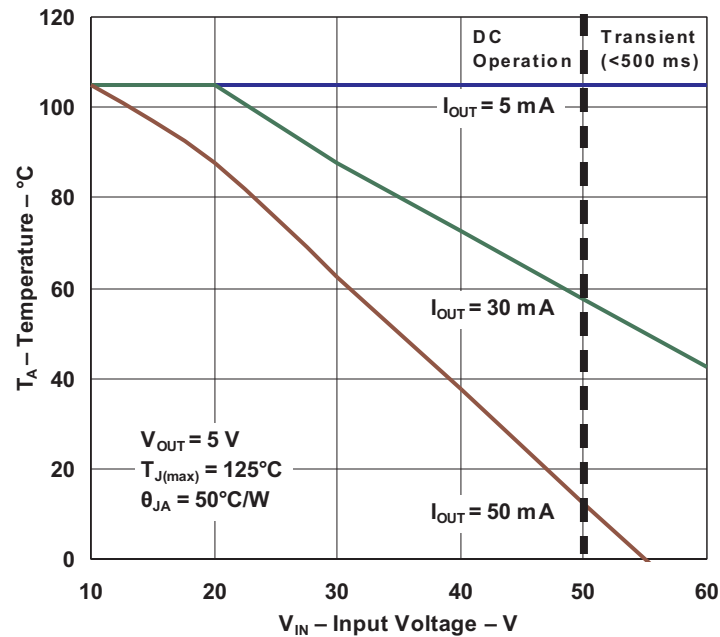

Figure 1. Safe Operating Area
- (1) Stresses beyond those listed under *Absolute Maximum Ratings* may cause permanent damage to the device. These are stress ratings only, which do not imply functional operation of the device at these or any other conditions beyond those indicated under *Recommended Operating Conditions*. Exposure to absolute-maximum-rated conditions for extended periods may affect device reliability.
- (2) Transient: 500 ms for $V_{IN} > 50$ V
- (3) The junction temperature must not exceed 125°C. See Figure 1 to determine the maximum ambient operating temperature versus the supply voltage and load current. The safe operating area curves assume a 50°C/W thermal impedance and may need to be adjusted to match actual system thermal performance.